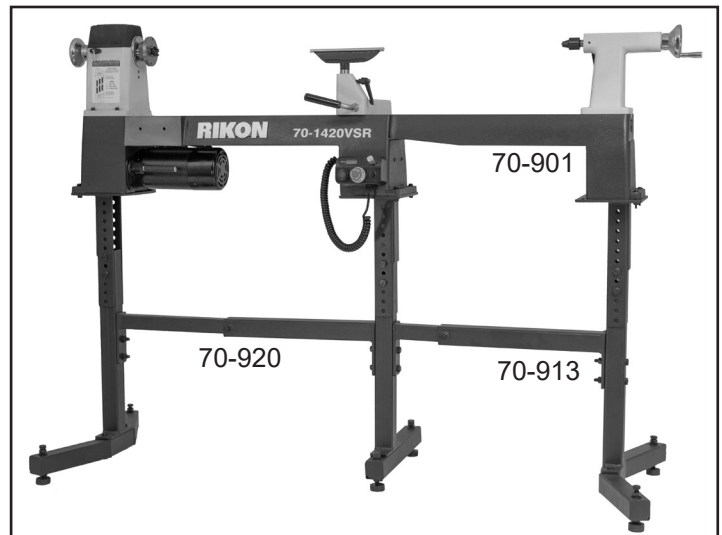

FIG. 8
- **#70-901** This 24" Bed Extension expands the working spindle length from 16-1/2" to 40-1/2". If the lathe is mounted on a stand (#70-920), the lathe Stand Extension (#70-913) is needed to support the added bed length. FIG. 8.